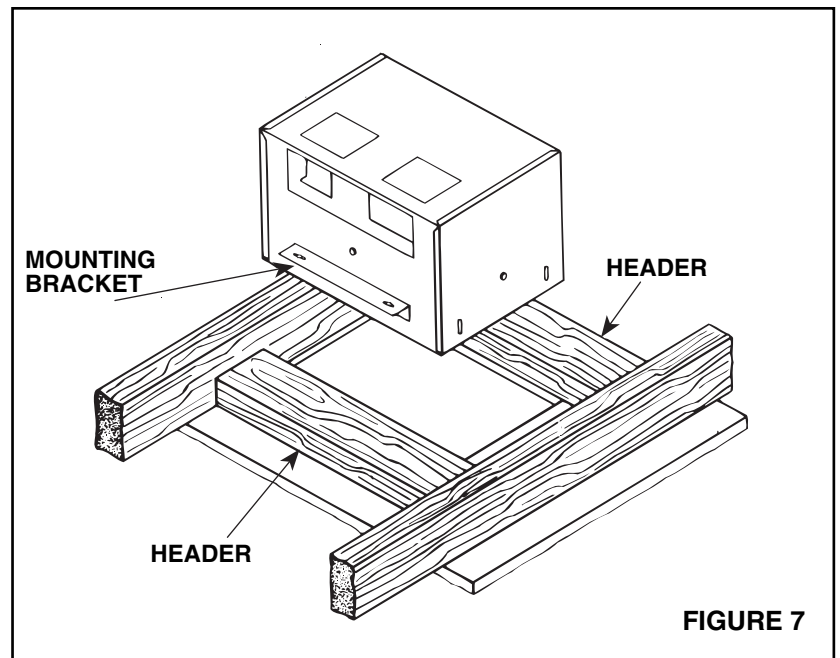

FIGURE 7
3. Refer to **Figure 7**. In attic or crawl space, mark ceiling for cutout by using the housing as a template. Cutout dimensions  $10\frac{3}{16}$ " x  $14\frac{3}{8}$ ". The short side ( $10\frac{3}{16}$ " or cutout must be next to the ceiling joist.
5. Refer to **Figure 7**. Install headers between joists using nails or screws leaving  $10\frac{3}{16}$ " between them.
6. Refer to **Figure 7**. The mounting brackets must be mounted on the long sides of the housing. **NOTE:** Each of the mounting brackets are secured by two (2) hex nuts.